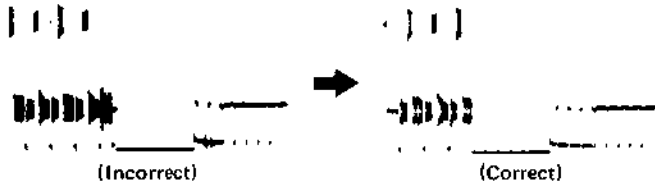

Fig. 5-11 Vertical pulse
4. Adjust R65 for  $T = 2.5 H$  in the Fig. 5-11.